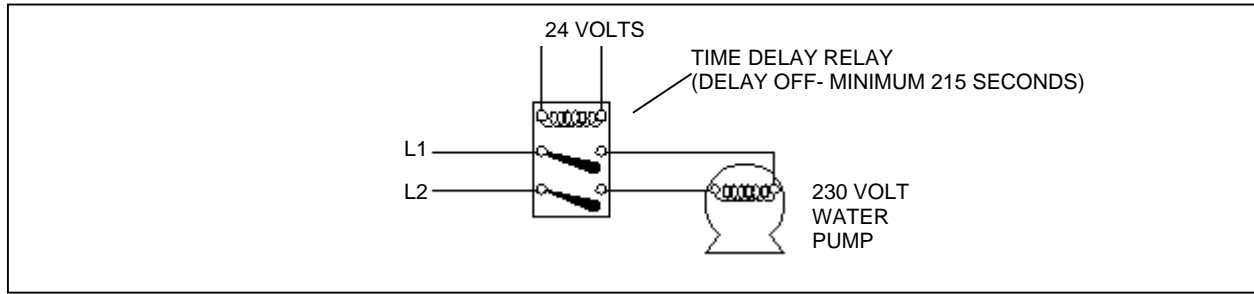

Figure 19 – EXTERIOR CONTROL WIRING FOR A 230 VOLT WATER PUMP
- Wiring a 230 volt water pump with a current requirement less than 4 amperes, see Figure 19.
When the unit does not control the hydronic system's water pump, the installer must ensure that the pump and the unit start at the same time. Also, the pump must continue to run during the unit's cycle down time (215 seconds after the opening of the control switch). See Figure 19.